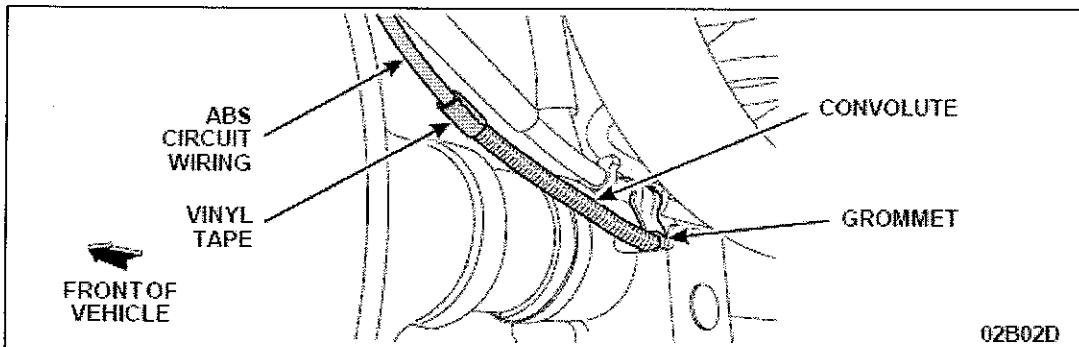

FIGURE 4
4. On 1992 to 1997 model year vehicles, install the supplied convolute over the ABS circuit wiring leading to each rear wheel. Position the convolute so it is up against the grommet as shown in the illustration. Secure with vinyl tape. See Figure 4.